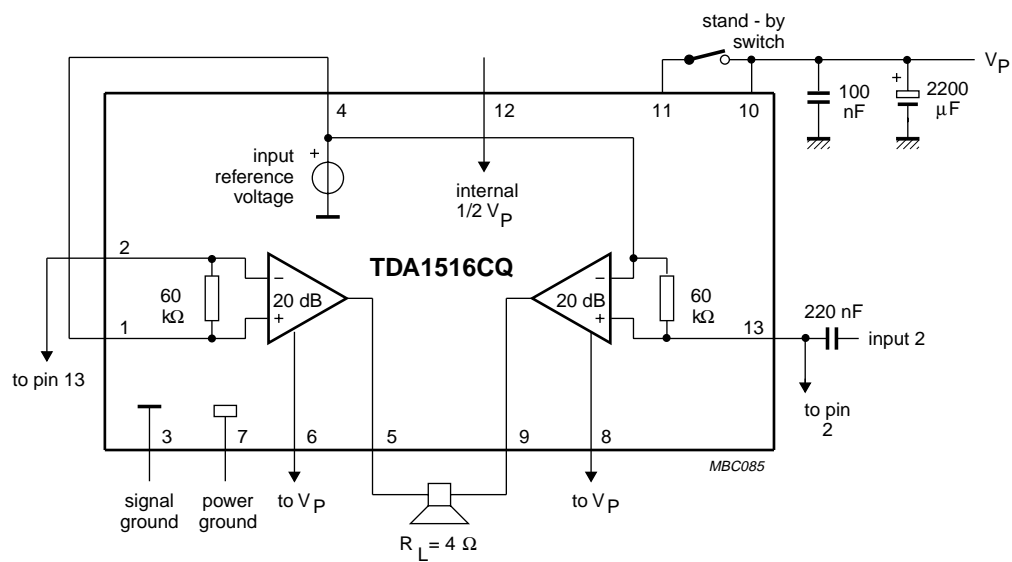

Fig.4 Application diagram.
1. All characteristics are measured using the circuit shown in Fig.4